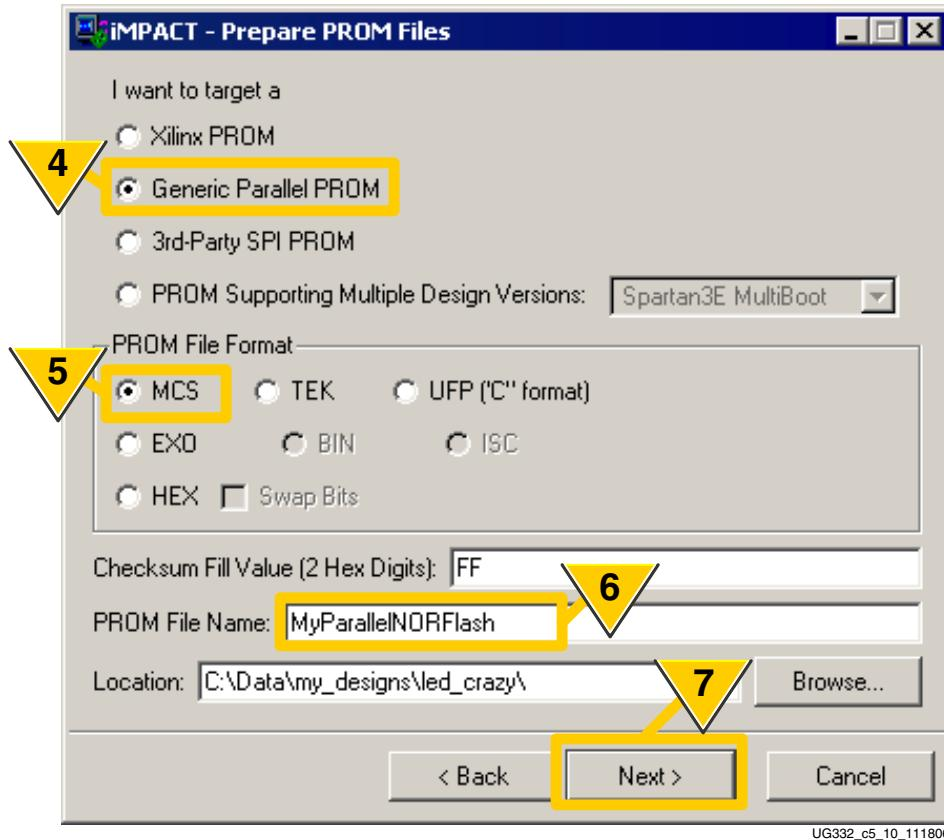

Figure 5-9: Set Options for a Generic Parallel PROM
4. As shown in Figure 5-9, target a **Generic Parallel PROM**.